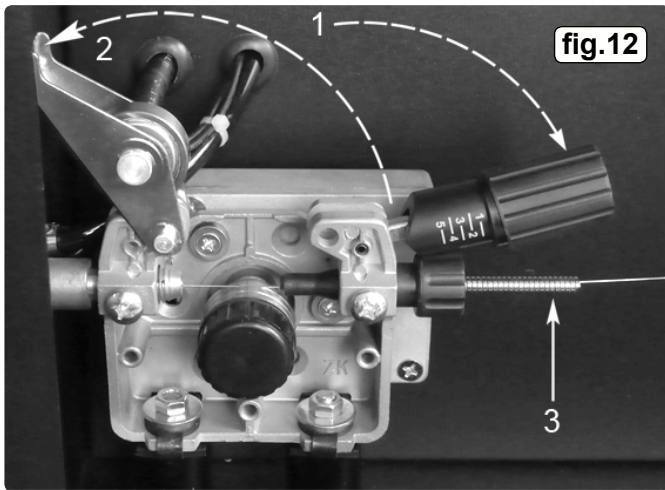

fig.12
- 3.9 FEED WIRE THROUGH TO TORCH.** Referring to fig.12 open the wire feed mechanism by pushing the locking/wire tension knob (1) down to the right allowing the pressure roller carrier (2) to spring up revealing the feed roller. Ensure that the required feed groove (0.6 or 0.8) is in line with the wire path. See Section 3.12 on how to reverse or change the roller.
- 3.12.1 Referring to fig.12, open the wire feed mechanism by pushing the locking/wire tension knob (1) down to the right allowing the pressure roller carrier (2) to spring up revealing the feed roller.
- 6.5. **GAS CUP** The gas cup must also be kept clean and free from spatter. Build up of spatter inside the gas cup can cause a short circuit at the contact tip which will result in either the fuse blowing on the printed circuit card, or expensive machine repairs. To keep the contact tip free from spatter, we recommend the use of Sealey anti-spatter spray (MIG/722308) available from your Sealey Dealer. Refer to fig.12 and section 3.9 for removal and replacement.